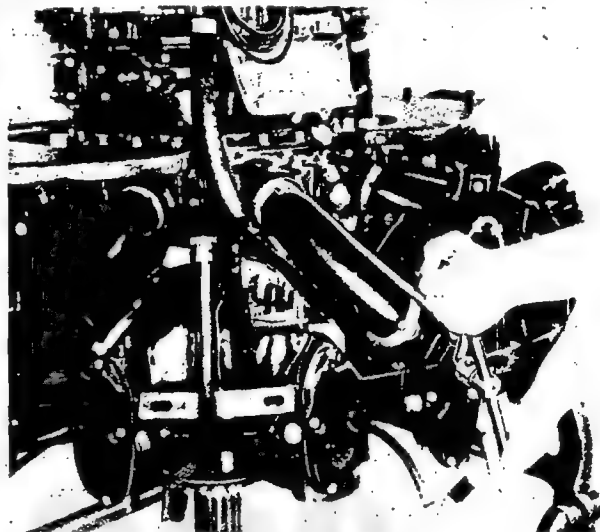

Figure 33—Loosening Intake Pipe Packing Nut
(2) Loosen the packing nut at the crankcase end of the intake pipe. This may be done with the special crowfoot-type wrench (Tool No. 84258) which fits the castellations on the nut snugly. See figure 33.